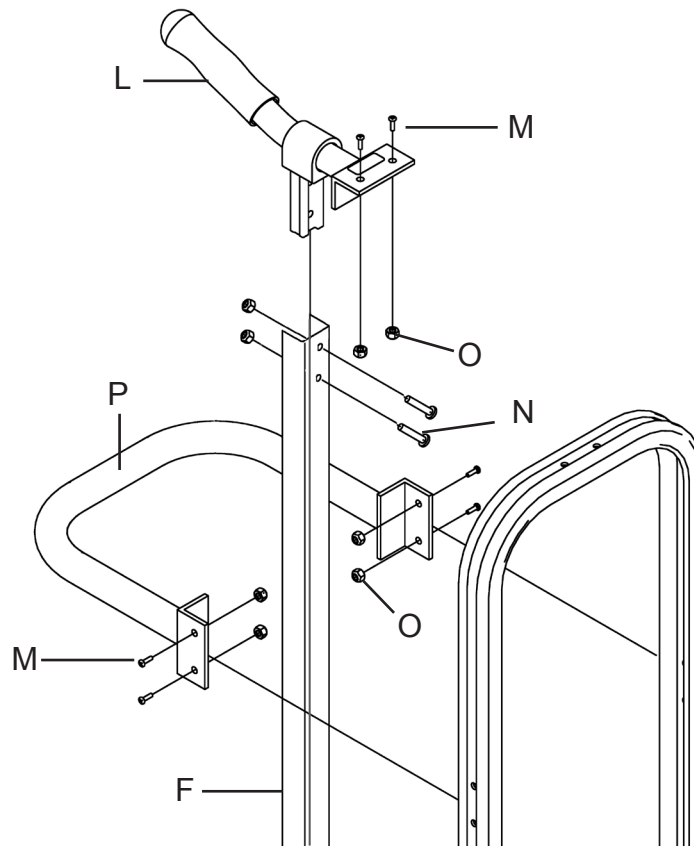

Figure 5
1. Insert handle with black grip (L) inside the rear support brace (F) with the hand grip facing away from the nose (see Figure 5). Insert two 1/4"-20 x 1-1/4" long screws (N) through the brace and handle and secure with 1/4"-20 hex lock nuts (O) (tighten screws to 50-60 in.-lbs. torque). NOTE: The 1/4"-20 lock nuts will sit down in the groove on the handle stub when assembled, eliminating the need for the 7/16" wrench when tightening the screw.
2. Rotate the handle with rear support brace up to the top of the frame, aligning the two bracket holes with the holes through the top of the frame (see Figure 5). Insert two 1/4"-20 x 3/4" long screws (M) through the bracket and frame and secure with 1/4"-20 hex lock nuts (O) (tighten screws to 50-60 in.-lbs. torque).
3. Slide the rear support brace (F) along the axle (8" models) or rear support mount (10" models) so it is centered between the two wheel brackets. Slide both shaft collars (E) up against the rear support brace (F) and securely tighten the shaft collar set screws against the axle or mount using the 5/32" Allen wrench.
5. Install the support loop brace (P), aligning the brace mounting holes with the frame holes (see Figure 5). Insert one 1/4"-20 x 3/4" long screw (M) through a brace mounting hole, using light blows with a hammer to pierce through the red stripe. Thread on one 1/4"-20 hex lock nut (O). Repeat this step to install the remaining three mounting screws. Securely tighten the four loop brace screws at this time (tighten the 1/4"-20 screws to 50-60 in.-lbs. of torque).